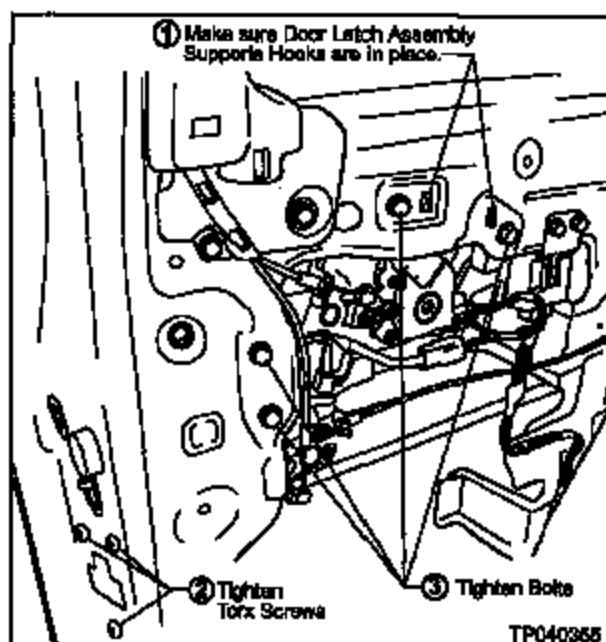

Figure 18
- Apply medium-strength Thread Locking Fluid (Blue) P/N 999MP-AM005P (or equivalent) to the three Torx Screws (see Figure 18).
1. First, make sure the Door Latch Assembly Support Hooks are properly inserted in the door sheet metal (see Figure 18).
2. Then, tighten the three Torx Screws that hold the Latch Assembly to the front end of the Sliding Door to 5.1 – 6.5 N-m (45 – 57 in-lb). See Figure 18.
3. Finally, tighten the four remaining Bolts to 5.1 – 6.5 N-m (45 – 57 in-lb). See Figure 18.